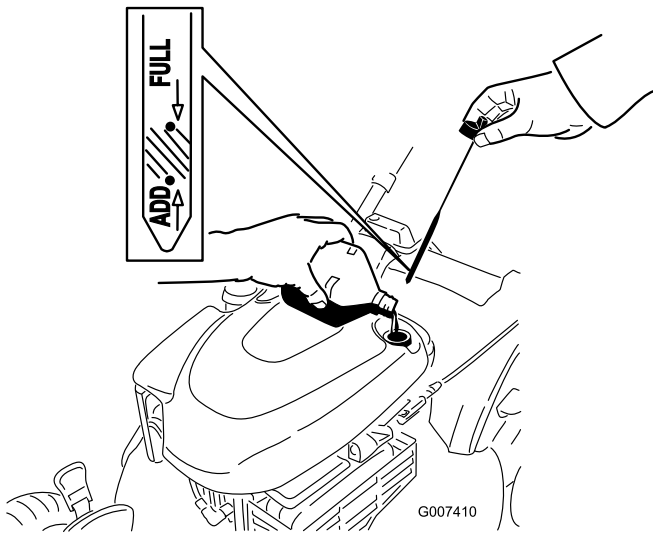

Figure 47
4. **Slowly** pour oil into the oil fill tube until the oil level reaches the **Full** line on the dipstick (Figure 47). **Do not overfill.** (Max. fill: 0.59 l, type: SAE 30 detergent oil)